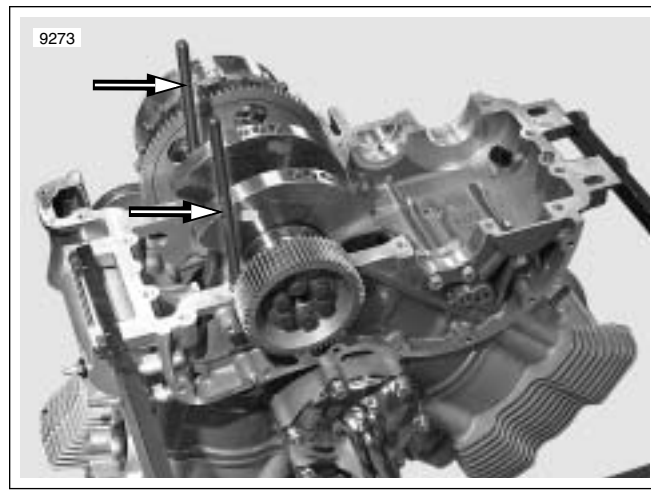

Figure 3-141. Lower Crankcase Alignment Dowels (HD-45310)
- See Figure 3-141. Install LOWER CRANKCASE ALIGNMENT DOWELS (HD-45310).